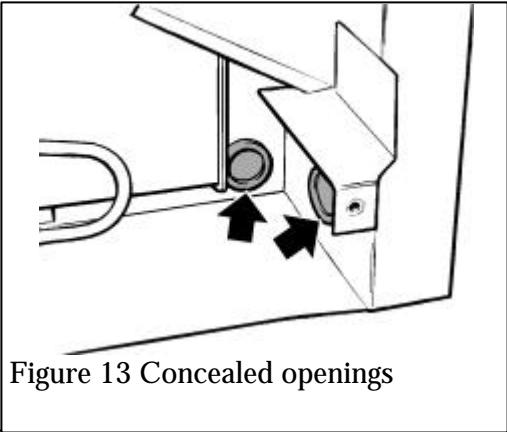

Figure 13 Concealed openings
**7.1** If the gas supply pipe is to enter through the concealed rear or side opening, pierce the relevant grommet (See figure 13). If the supply pipe is sleeved, trim the sleeve back where it enters the appliance and seal the sleeve to the pipe. If using the concealed side opening, we suggest that the supply pipe is cut so that it enters the side of the appliance by approximately 25mm and, after fitting the unit to the wall, using a compression elbow, connect to a formed pipe running to the appliance elbow.